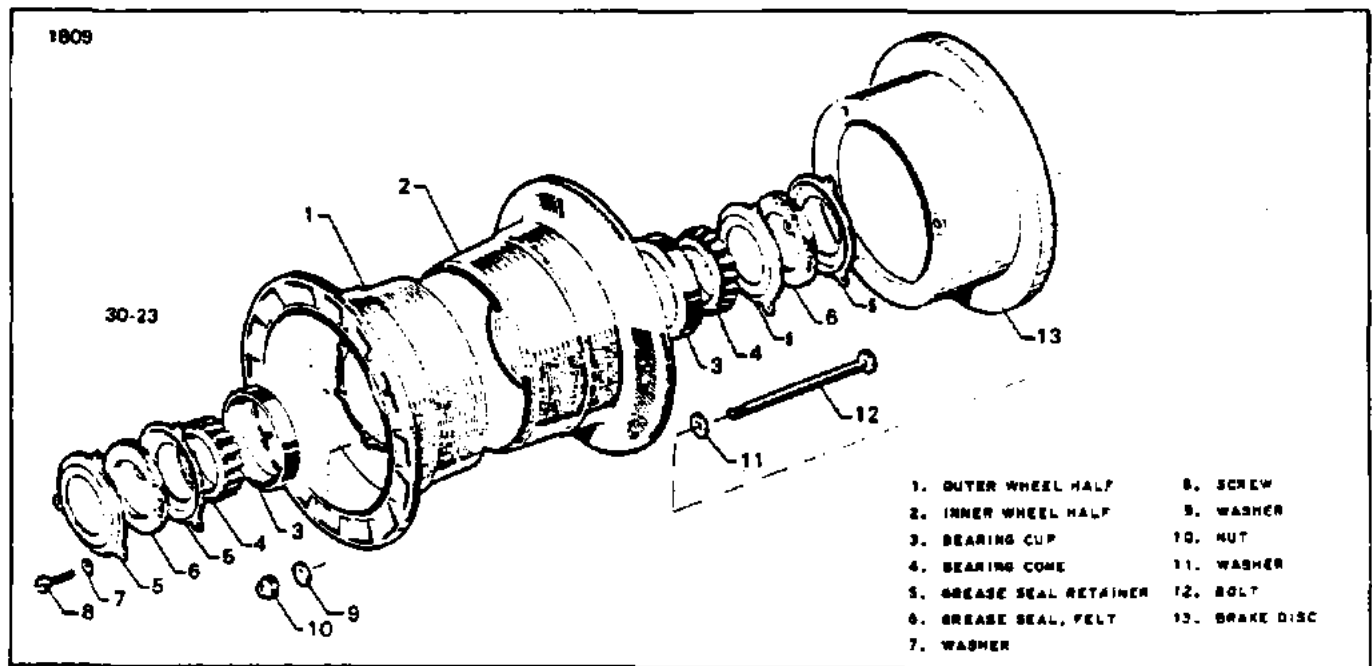

Figure 7-20. Main Wheel Assembly. Serial Nos. 30-2 to 30-845 Incl.
- c. On airplanes with Serial Nos. 30-2 to 30-845 inclusive, remove and disassemble the wheel as follows (Refer to Figure 7-20.):
- (a) Deflate the tire and remove the grease seal retainer (5) by removing the attaching screw (8).
- (b) Remove the bearing cones (4).
- (c) Remove the bolts (12) securing the wheel halves together.
- (d) The bearing cups (3) should be removed only for replacement and may be removed by tapping evenly from the inside.